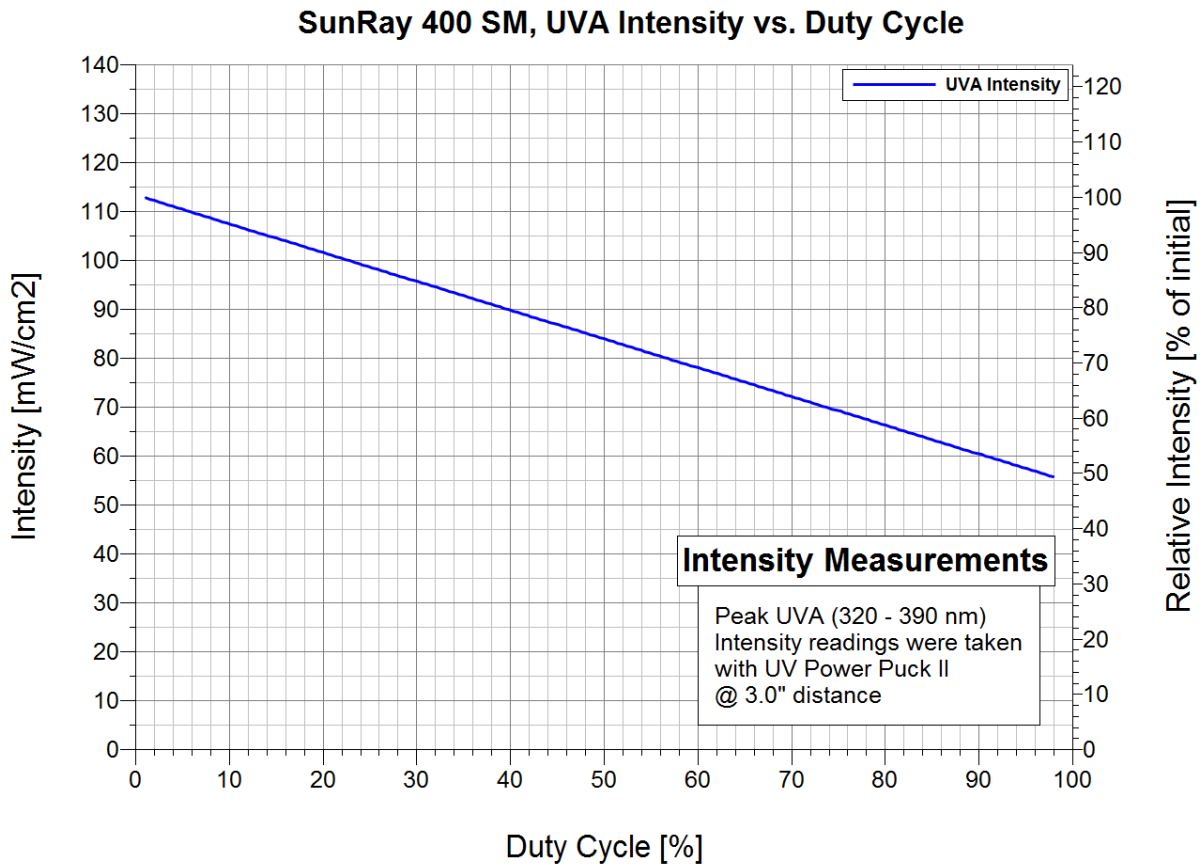

Fig. 6, Effect of PWM of Standby signal on lamp intensity
- The *Standby Power H* signal can be used to externally control the SunRay lamp intensity. This signal can be used to either simply switch between full power and half power as the unit's front panel switch does, or the signal can be pulse width modulated to linearly vary lamp intensity between full and half power (see Fig. 6 below). When the signal at pin 5 is open (high), the lamp intensity will be set to the minimum standby power level. When the signal is shorted to the Standby Power Return at pin 13, the lamp intensity will be set to the full power level.